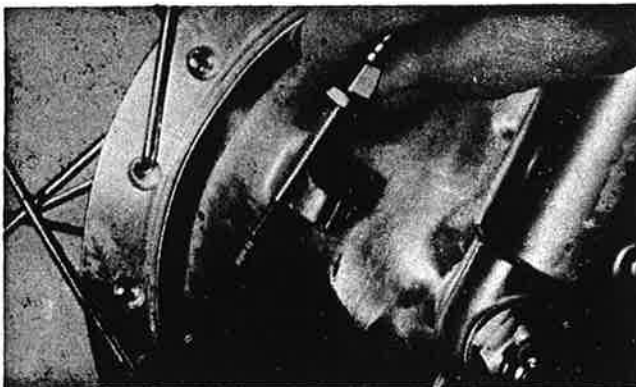

Fig. 5-1-2
2. Disconnect the brake cable at the front wheel backing plate. (Fig. 5-1-2)